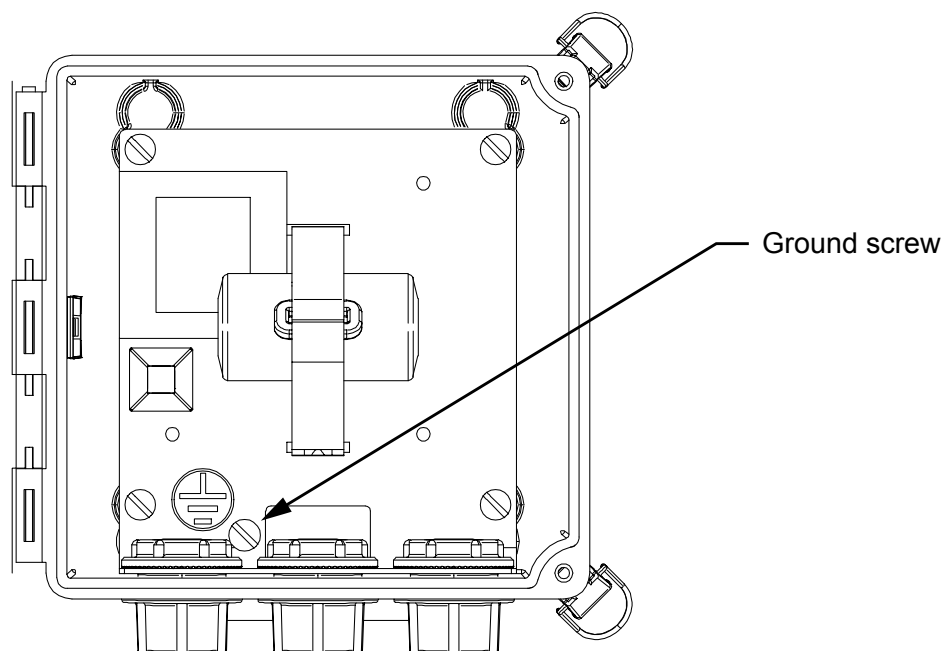

Figure 2.6—Ground connection screw (enclosure shown with door removed)
3. Connect a ground wire to the internal ground connection screw located inside the enclosure. The screw is identified with the ground symbol, as shown in Figure 2.6, page 24. For DC-powered installations, route the protective earth grounding conductor into the enclosure with the incoming power conductors.